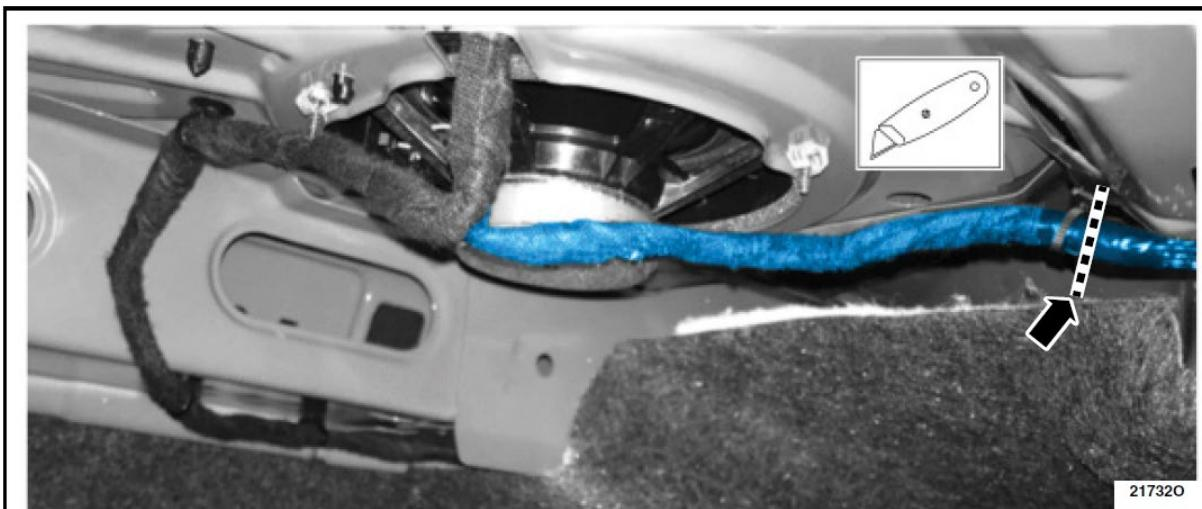

FIGURE 16
20. Cut out the damaged section of the harness. Make the cut at the location of the harness noted. See Figure 16.